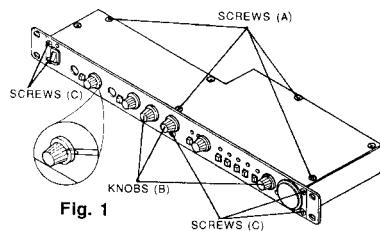

Fig. 1
- (a) Removal of Top Case (Fig. 1)
- (b) Removal of Front Panel (Fig. 1)